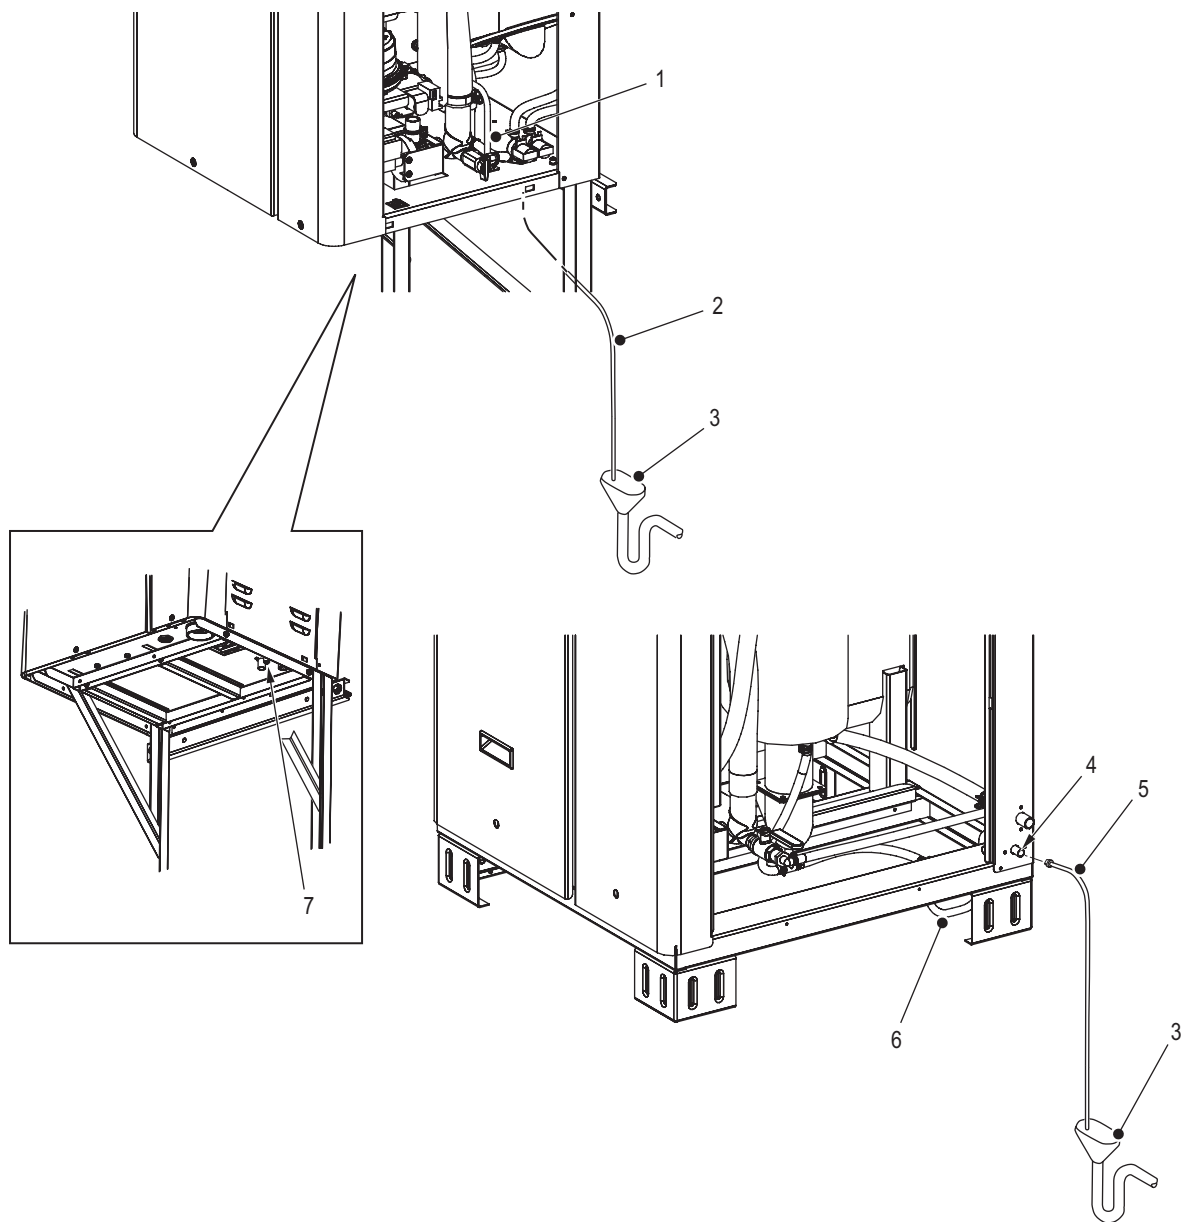

Figure 17: Exhaust Condensate Drain Line (CS/NX Model Only)
Install the exhaust condensate drain line (CS/NX model only) as shown in Figure 17.
- Install the condensate drain hose (CS/NX model only), and secure it with a hose clamp – refer to Figure 17 on page 37. The hose must be rated to 212 °F (100 °C). Connect the hose to a condensate neutralization device, if required by local code, before connecting the hose to a drain.